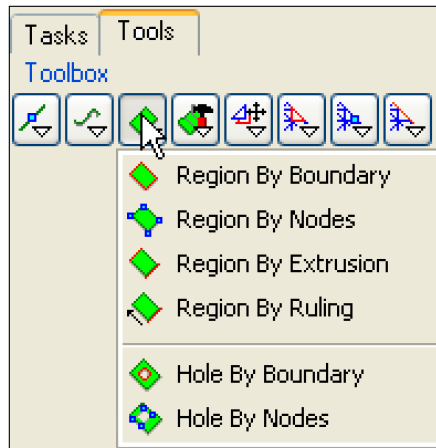

Figure 221: Toolbox - Create region
3. Select the option from the pull down menu, shown in Figure 221, that corresponds to the region creation method you plan to use.